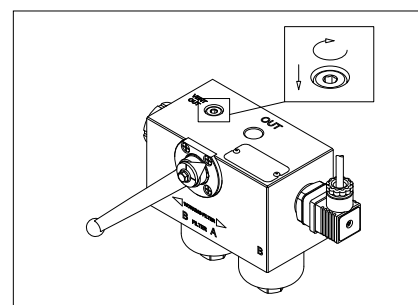

fig. 17
- (Fig. 17) Bleed the air from the system through the “Vent OUT”, until the operating fluid starts oozing. Immediately screw the breather plug in